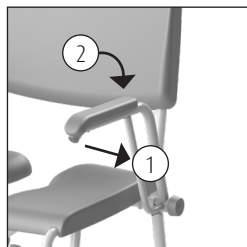

Figure 5. Armrest.
- The safety catch is pulled outwards to unlock the armrest (1) (See figure 5).
(See figures 5 & 6).